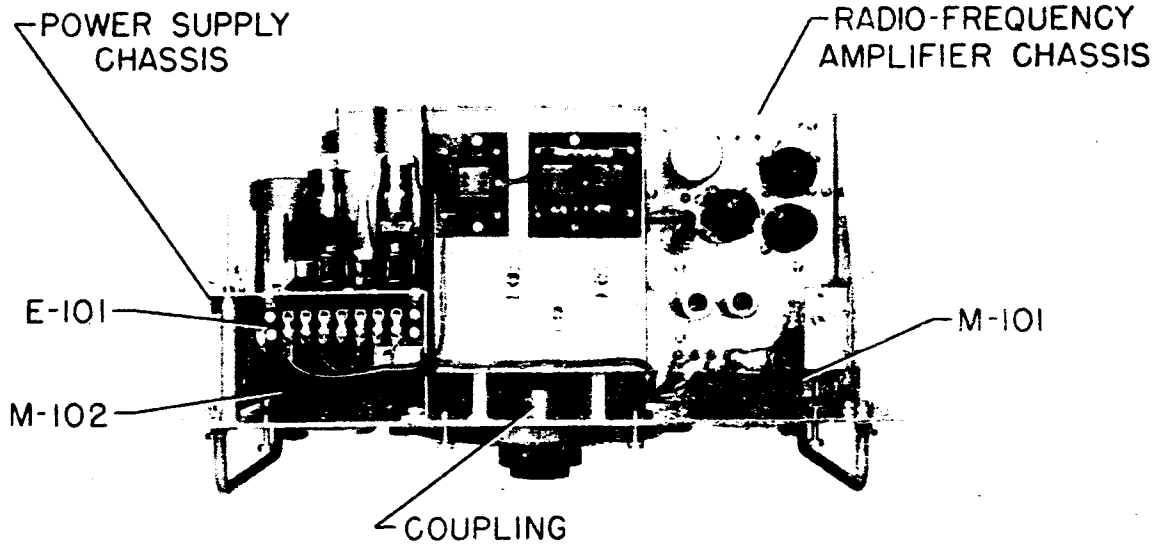

Figure 5-1. TOP VIEW
5-6. Resistance check on E-101 with interconnecting harness removed is shown in Table III. (See Figure 5-1).
- g. Loosen two set screws on coupling between oscillator shield and back of front panel, connecting to dial. (see Figure 5-1.)
- e. Tighten two set screws on coupling between oscillator shield and back of front panel, connecting to dial. (see Figure 5-1.)